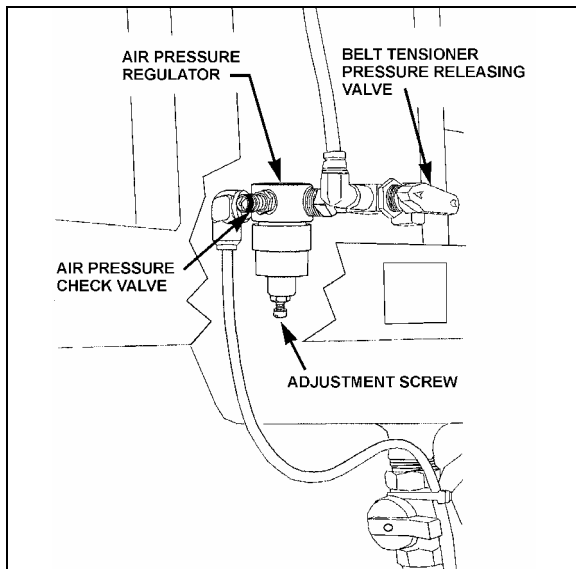

FIGURE 22: AIR PRESSURE REGULATOR 12200
valve (Fig. 22), mounted above the engine R.H. side door next to the air pressure regulator, then turn handle clockwise in order to release pressure and tension on belts.
3. Reset belt tensioner pressure releasing valve (Fig. 22) to 50 psi (345 kPa) for coaches and to 45 psi (310 kPa) for MTH to apply tension on the new belts as explained in Section 12.